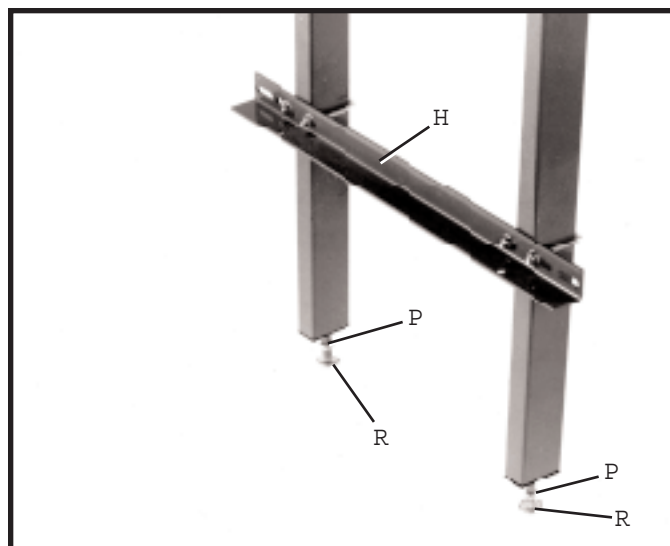

Fig. 16
5. Fig. 16, illustrates the shelf support (H) assembled to the table legs. NOTE: Shelf support (H) can be rotated or adjusted to fit any type of shelf.
6. After the table and legs are assembled to the saw, check if the Unifence table is level with the saw table. If an adjustment is necessary, loosen jam nut (P) Fig. 16, and rotate leveling screw (R) as necessary. Tighten jam nut (P) against bottom of each table leg.